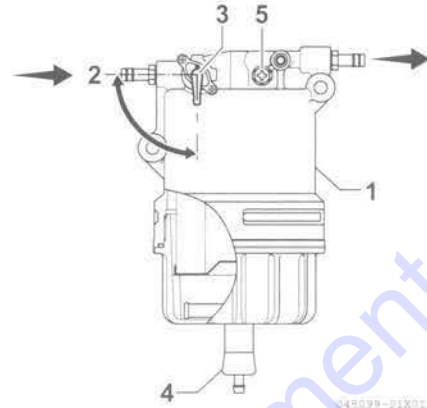

Figure 5
1. Position an approved container under the water separator (1, **Figure 5**) to collect water and contaminants drained from the water separator.
2. Close (2, **Figure 5**) the fuel valve (3, **Figure 5**).
3. Open the drain valve (4, **Figure 5**) at the bottom of the water separator. Drain any water collected inside. If no water comes out, loosen the air vent screw (5, **Figure 5**) at the top of the water separator by turning it counterclockwise 2 - 3 turns.
4. If still no water comes out, open the fuel valve (3, **Figure 5**).